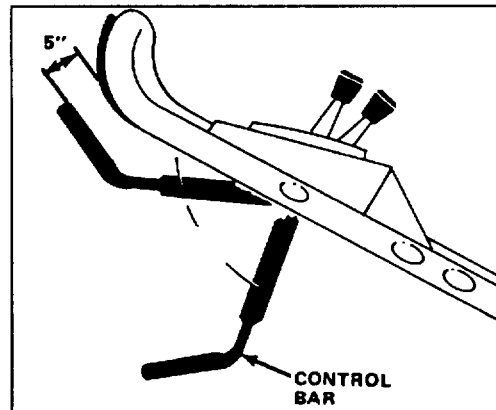

Figure 11
2. Push the control bar down to the lowest position (Fig. 11). This "latches" the mechanism prior to engaging the blade.
6. Push the control bar down to its lowest position, latching the mechanism (Fig. 11).
7. Slowly lift the control bar to a point where the bag just begins to inflate (about 5" below the handle) (Fig. 11). This indicates that the mower blade is engaged and has begun to rotate.